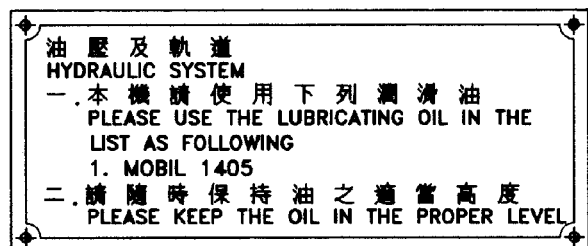

Fig 3.7.8
8. Hydraulic /Lubrication oil indicator (Fig3.7.8). Located in position “H”